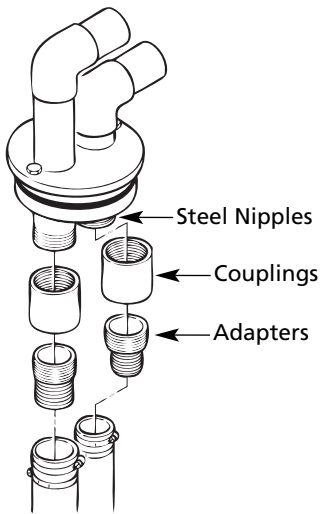

Figure 9
4. Use pipe couplings and adapters to connect nipples to plastic pipe (see Figure 9). Teflon tape all threaded joints to prevent leaks.